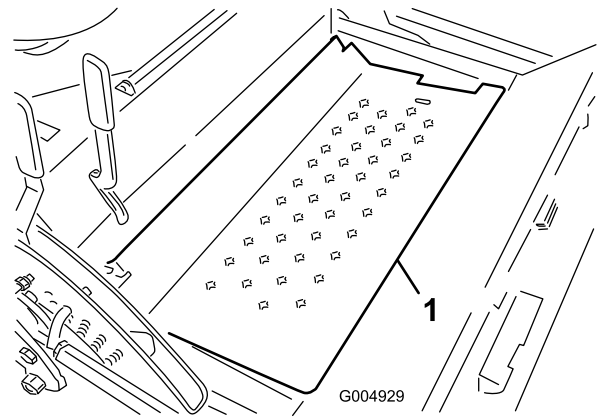

Figure 89
- 33. Pivot open the floor plate (Figure 89).